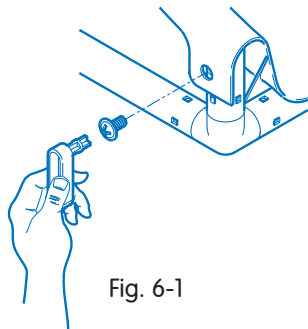
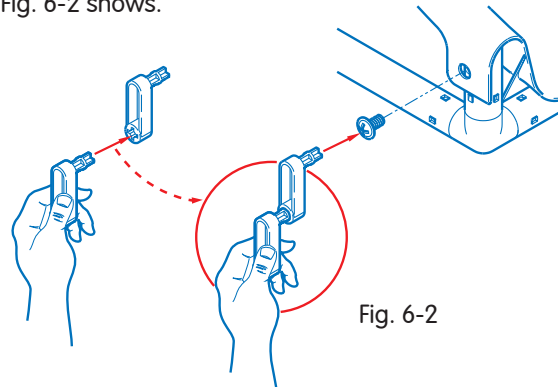

Fig. 6-1
Fig. 6-2
(1) After the model is constructed make sure to fasten all the ends of slide to the tubes with the tube screws and screw driver as Fig. 6-1 shows or double screw driver as Fig. 6-2 shows.